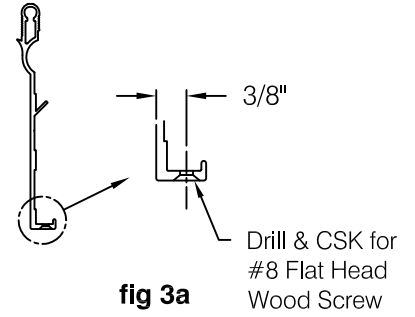
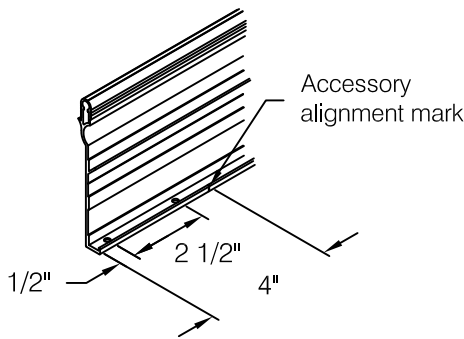

fig 3a
fig 3b
- Step 5:** Drill and countersink accessory base mounting holes along bottom edge of aluminum retainer for #8 flat head wood screws provided. Place an accessory alignment mark 4" in from end of aluminum, see **fig 3a** and **fig 3b**.
- Step 8:** Drill and countersink bumper guard mounting holes along bottom edge of aluminum retainer for #8 flat head wood screws provided, see **fig 3a** and **fig 6**.